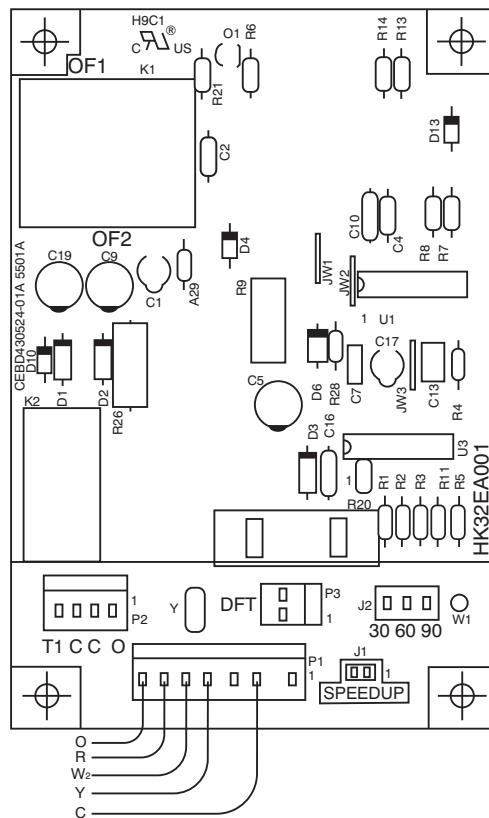

Fig. 11 – Defrost Control
5. Short between speed-up terminals with a flat-bladed screw-driver. (See Fig 11.) This reduces the timing sequence to 1/25th of original time. (See Table 4.)